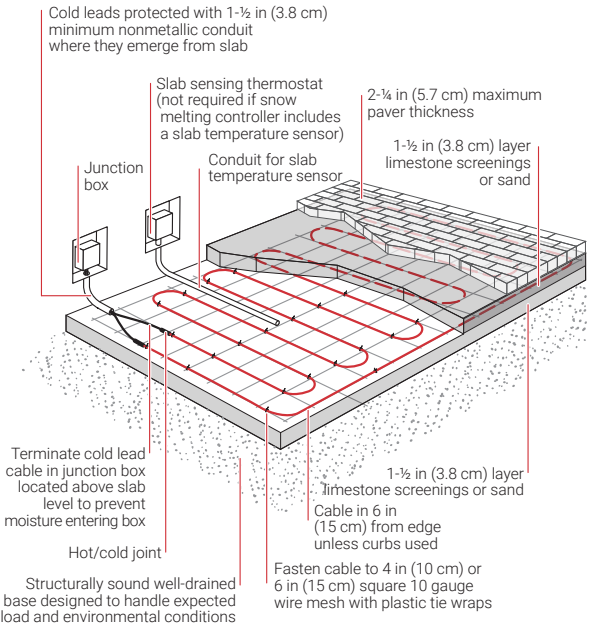

Figure 22: Brick and concrete pavers
6. Lay out the heating cable in a serpentine pattern on top of the wire mesh and fasten the cable to the mesh with plastic tie wraps (do not use wire), at the predetermined spacing, ensuring that the watt density is as specified in the design requirements (see Section 2.10). Typical cable spacing ranges between 3 in (7.5 cm) minimum to 6 in (15 cm) maximum on centers. For sloping ramps, such as a ramp to an underground parking garage, serpentine the cables across the width of the ramp to improve snow melting effectiveness. Stay at least 6 in (15 cm) from edges and outer walls (see Figure 22).
7. Install the hot/cold joints so that they are at least 6 in (15 cm) in from the edge of the heated area, ensuring that they will be completely embedded in the limestone screenings or sand (see Section 2.6). Protect the cold leads with nonmetallic conduit where they emerge from the heated area (see Figure 22 and Section 4 for details).